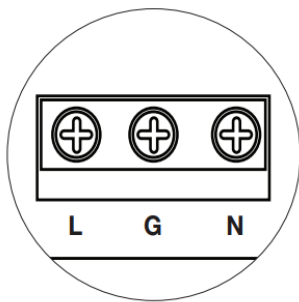

Fig. 1
1. Secure cabinet to earth ground. Connect AC power from overcurrent protective device circuit breaker (20A @ 115VAC, 60Hz, 16A @ 230VAC, 50/60Hz) to the terminals marked [L, N] on power supply board (Fig. 1, pg. 4). Use 14AWG or larger for all power connections (Battery, DC output, AC input).